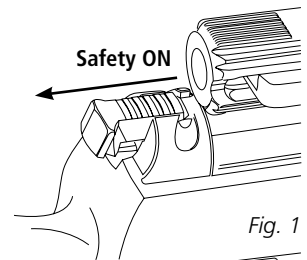

Fig. 1
- To set the safety to "ON", pull safety button. In this position, the trigger cannot be pulled and the gun cannot be shot (Fig. 1).
**CAUTION: Until you are actually ready to shoot, keep the safety button in the "ON" position (Fig. 1).**